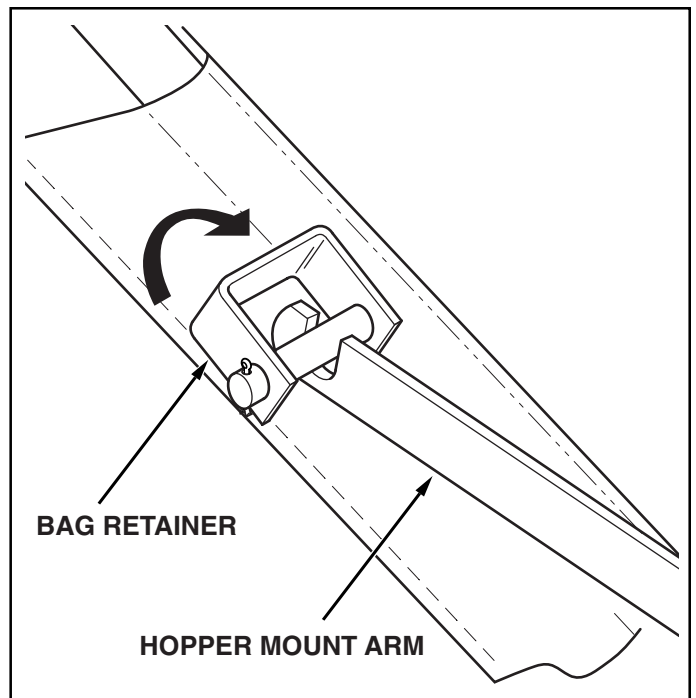

FIGURE 19
15. To remove the hopper bag from the sweeper, simply pivot the bag retainers upward and remove the bag. See figure 19.